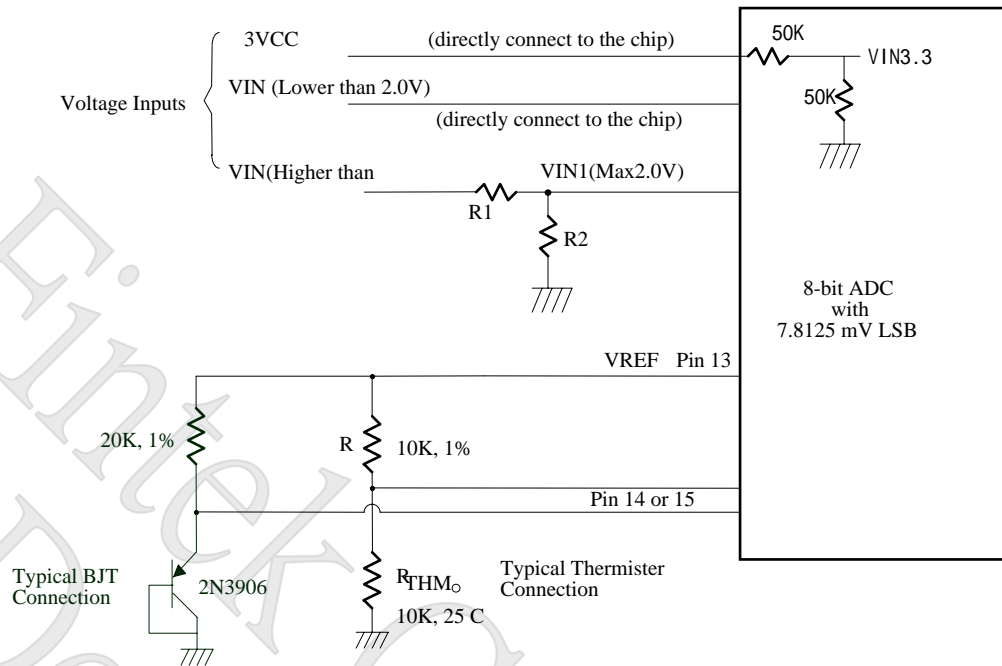

Figure 5-3
The F75375S can connect two thermistors to measure environment temperature or remote temperature. The specification of thermistor should be considered to (1) β value is 3435K (2) resistor value is 10K ohm at 25°C. In the Figure 5-3, the thermistor is connected by a serial resistor with 10K Ohm, then connected to VREF (pin13).
Also, if the CPU, GPU or external circuits provide thermal diode for temperature monitor, F75375S is capable to these situations. The build-in reference table is for PNP 2N3906, and each different kind of thermal diode should be matched with specific offset and BJT gain. In the Figure 5-3, the 2N3906 PNP is connected by a serial resistor with 20K ohm, then connect to VREF (pin13).